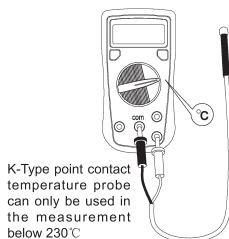

figure 8
H. Temperature Measurement (only UT136C, see figure 8)